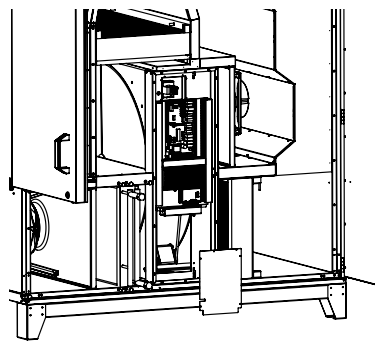

Fig. 16
- Remove the cover of the revision opening. (see Fig. 16)